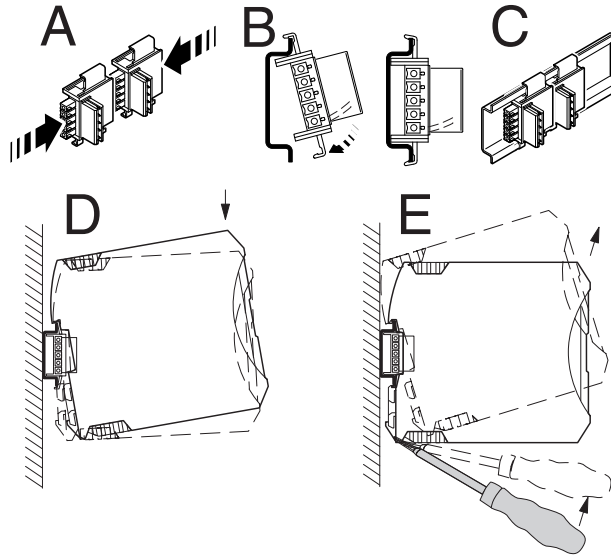

Figure 4-2 Mounting and removal
3. Place the device onto the DIN rail from above (see Figure 4-2, D). Make sure that the device and DIN rail connector are aligned correctly.
1. Use a suitable screwdriver to release the locking mechanism on the snap-on foot of the device (see Figure 4-2, E).